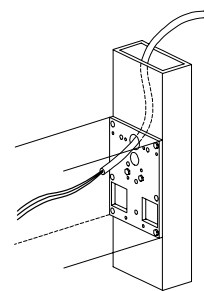

Figure 2-3
2.4. Feed the 115 volt power conduit into the header (Figure 2-3). Leave 12" minimum of wire inside the header for final hookup.